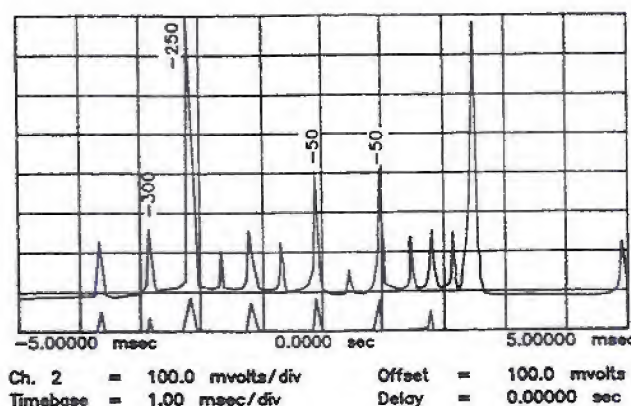

Figure 5-18. Frequency Response of Notch Filters, 965 MHz Setting.
13. Set the Signal Generator frequency to 965 MHz and observe the oscilloscope Chan 2 display. The beat note levels should resemble those shown for channel 2 in Figure 5-18. (the 50 MHz beatnotes are shown with nonadjusted levels.) Adjust A4L39 (50 MHz Notch Filter) until the 50 MHz beat notes are at their minimum amplitude. Adjust A4C75 to maximize the 250 MHz signal while keeping the 300 MHz signal at minimum.